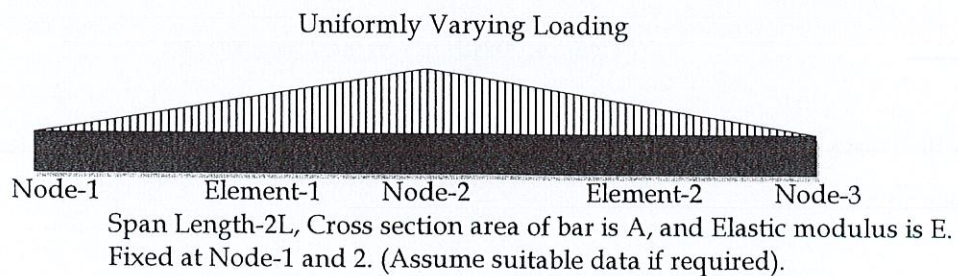

Figure 2: Bar member subjected to uniformly varying loading
Q.2 Compare displacement and axial stress obtained from the finite element solution and exact solution for a bar element. (Assume minimum two elements in a bar element). The schematic view of bar element is shown in Figure 2.